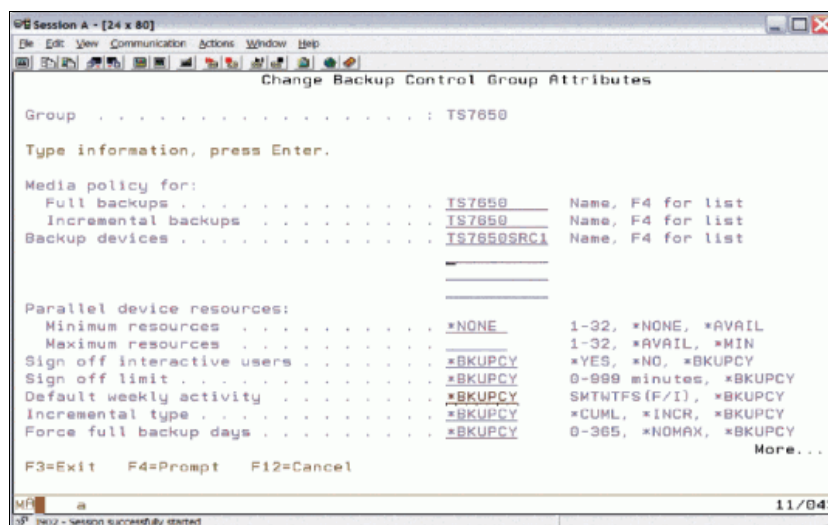

Figure 17-6 Example of verify media move
3. Create a BRMS backup control group to use the media policy with the VTL on the production ProtecTIER system (Figure 17-6).
In Figure 17-6, the following field values are specified: